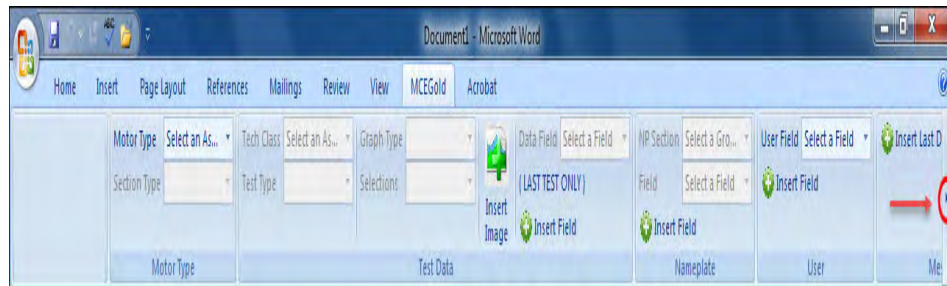

Figure 3-84: Word MCEGold Tool Bar
1. Open Word and click the MCEGold tab on the menu bar as shown in Figure 3 - 83. This displays the tool bar shown in Figure 3-84 that is used in creating MCEGold templates. This tool bar may be wider than your monitor can display. Look for the small arrow at the far right indicating more fields are available.